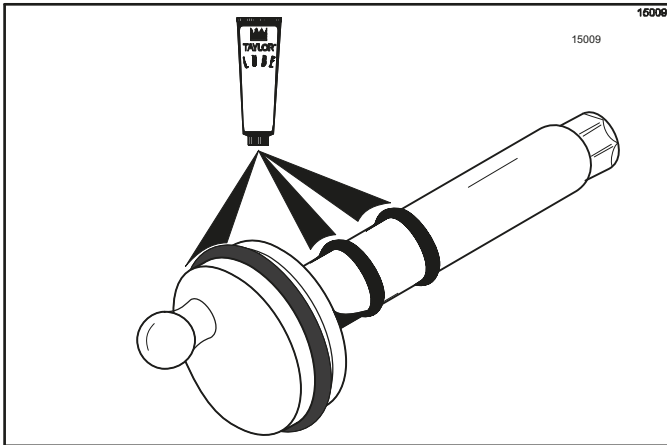

Figure 6-25
- Slide the large black O-ring and the two smaller black O-rings into the grooves on the drive shaft. Thoroughly lubricate the O-rings and shaft. (See Figure 6-25.) **Do not** lubricate the hex end of the shaft.